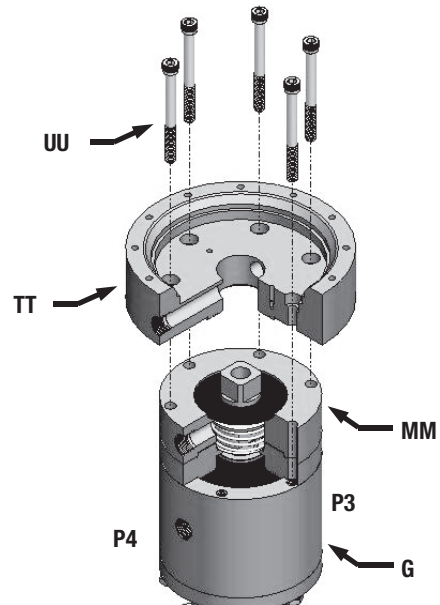

Figure 27
**Step 47:** Bolt the Lower Feedback Chamber (TT) on top of the PID Spring Spacer (MM), as shown in Figure 27, using 6, 1/4-20 x 2 1/2" SHCS (UU).